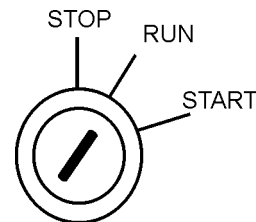

Figure 40. Ignition Switch Pre-Heat (Run Position)
1. In warm weather conditions, skip to step 3. In cold weather conditions, preheat the engine glow plugs by turning the ignition key (Figure 40) to the **RUN** position
3. Turn the ignition key to the start position (Figure 42). Once the engine starts, release the ignition key and allow it to return to the **RUN** position (Figure 40).